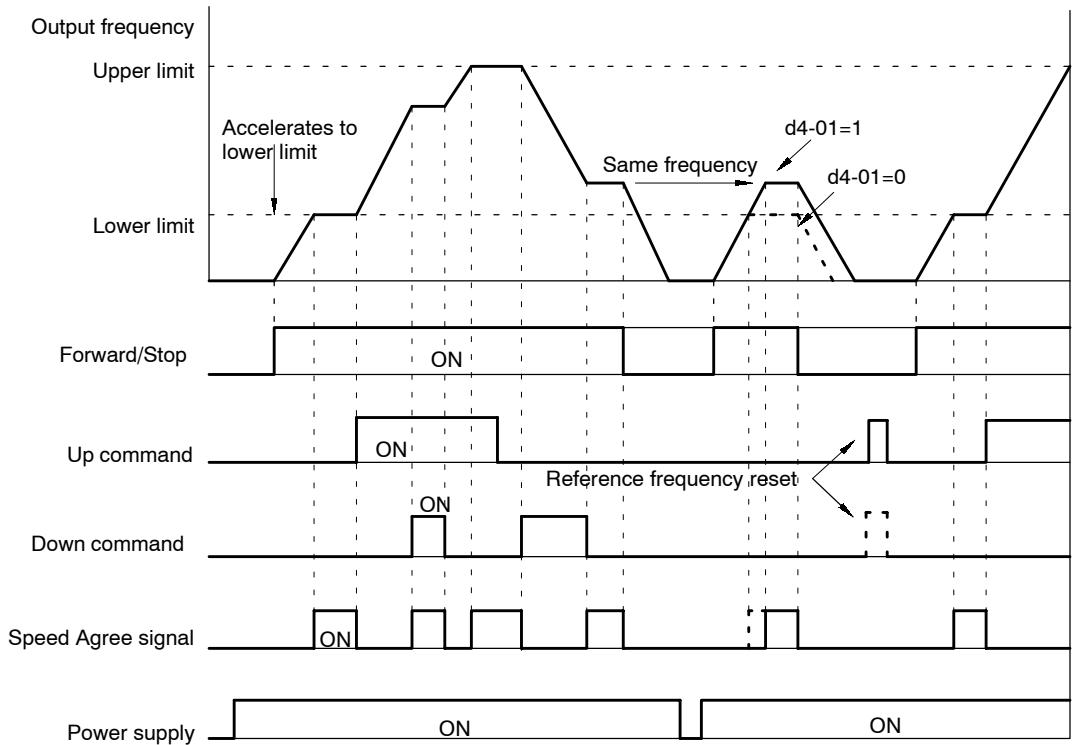

Fig 7.36 Timing Chart for Up and Down Commands
- The output frequency held by the up/down function will be stored in memory if d4-01 (the frequency reference hold function selector) is set to 1. This output frequency will be retained even after a power loss, and operation will be restarted at this frequency the next time that a run command is input. The stored output frequency will be cleared from memory if the up or down command is turned ON while the run command is OFF (see "Reference frequency reset" in *Figure 7.36*).